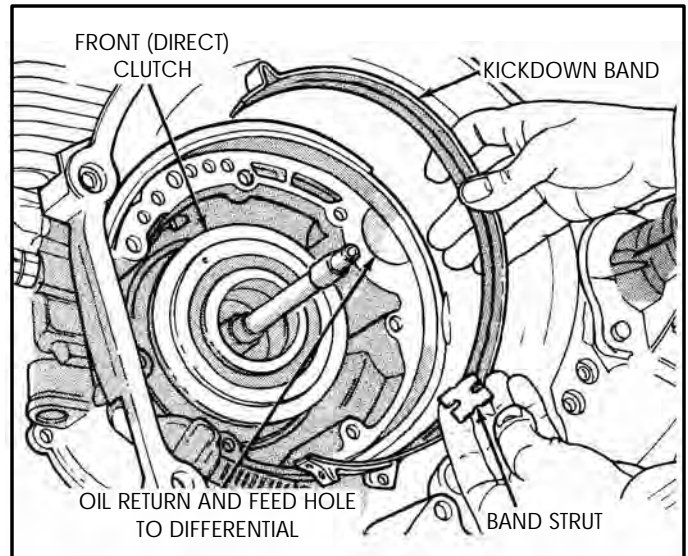

Figure 231
15. Install the kickdown band around the front clutch housing, as shown in Figure 231, along with the band strut.